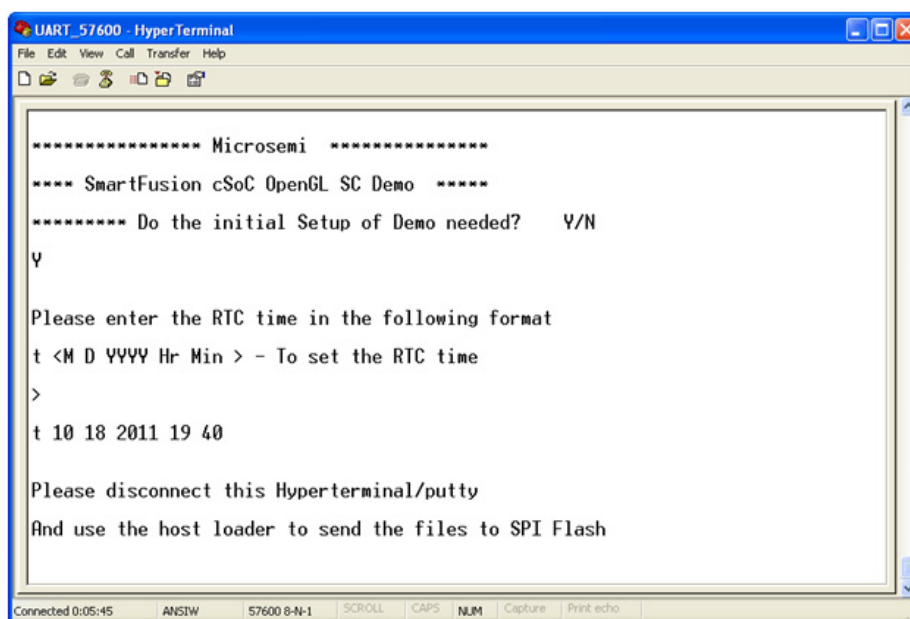

Figure 4-5 • Demo 3
16. Type the date as described for RTC configuration (Example: t 10 18 2011 19 40). The text will be displayed, as shown in Figure 4-5. (If you enter the date incorrectly, you will be required to start again from step 12)